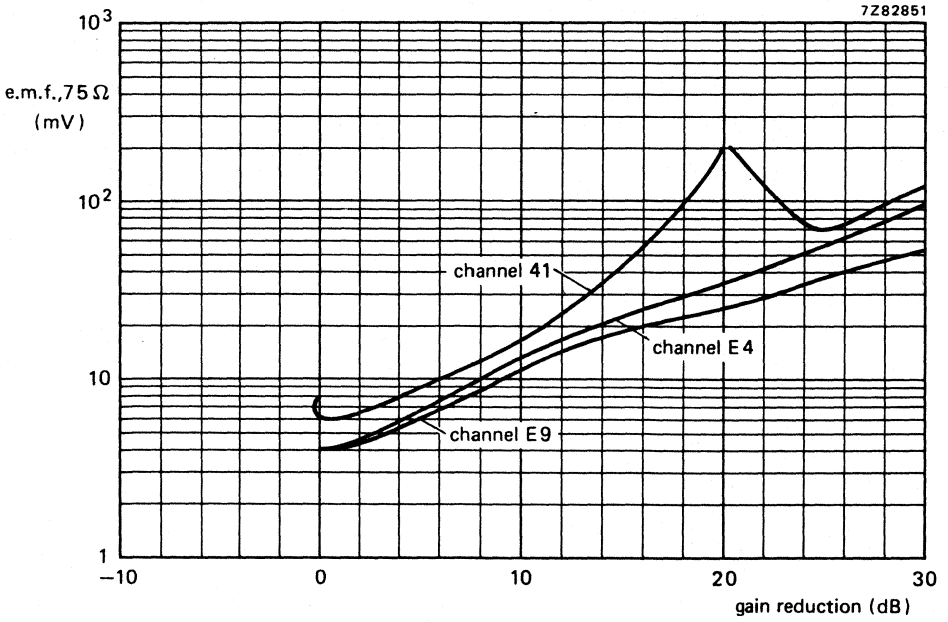

Fig. 11 Cross-modulation, in channel.
**Signal handling (see also Figs 11 and 12)**